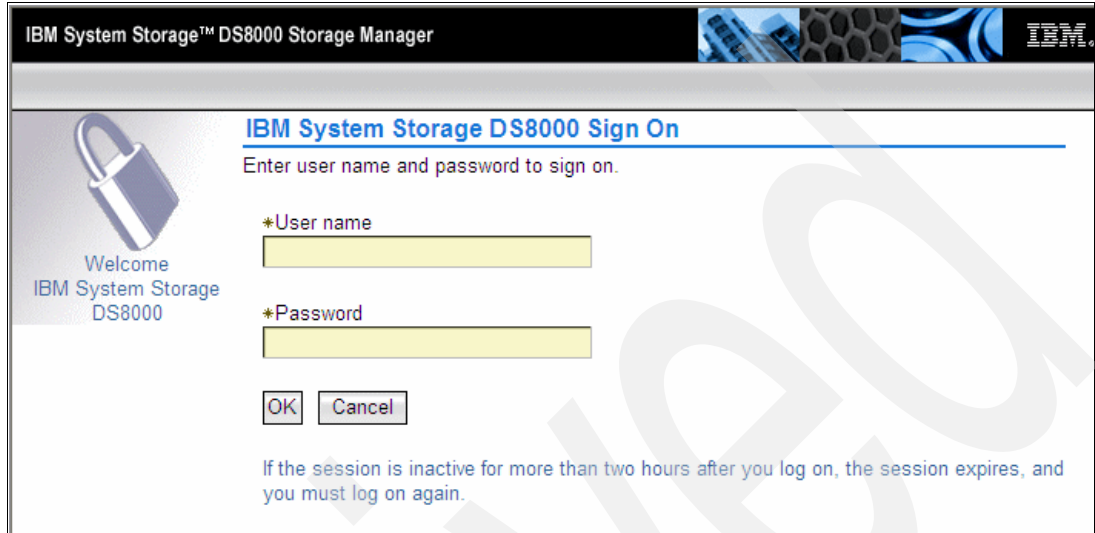

Figure 11-2 DS8000 Sign On panel
1. Access the DS GUI as described in 9.1.3, “Accessing the DS GUI interface” on page 338, and then sign on using an administrator user name and password, as shown in Figure 11-2.